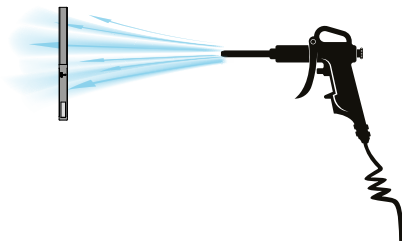

Fig. 3
3. Blow the filters delicately with compressed air to avoid damaging the structure (fig. 3).